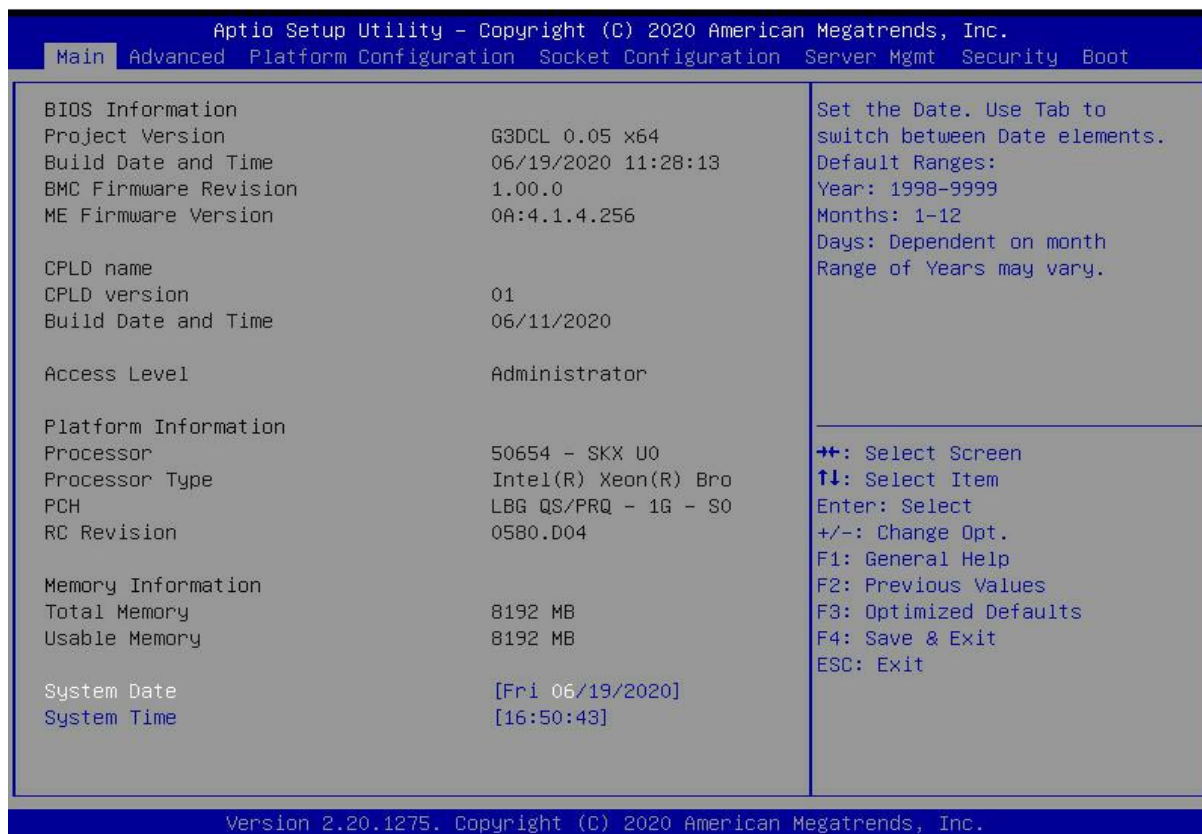

Figure 7-15 SOL operation interface
1. After clicking to activate, the SOL interface shown in Figure 7-15 will appear.